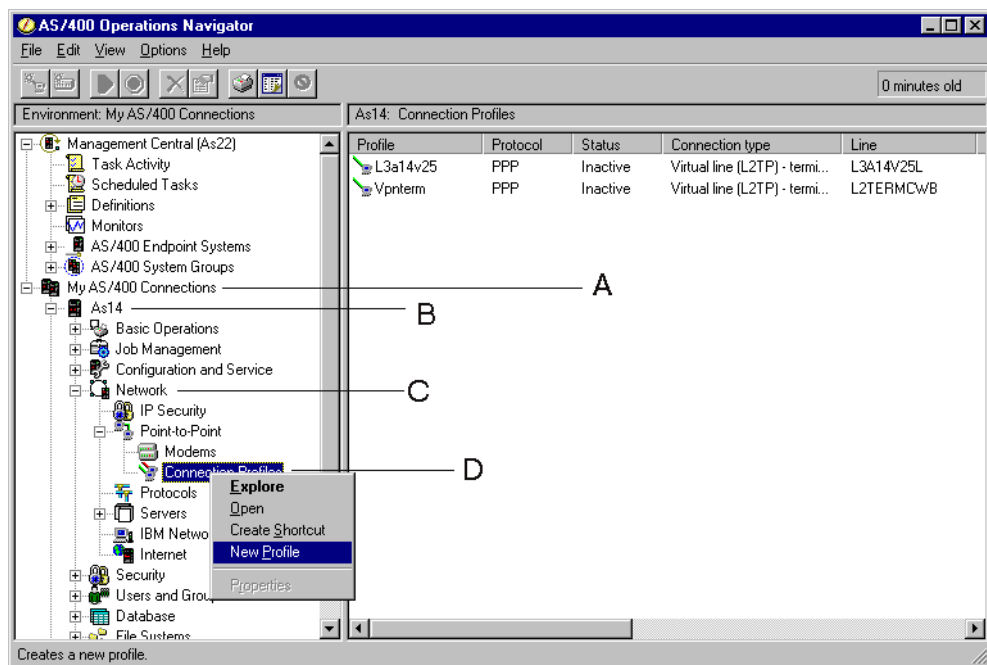

Figure 195. Creating a new PPP connection on the AS14 system
2. Double-click on the My AS/400 Connection icon (**A**) as shown in Figure 195.